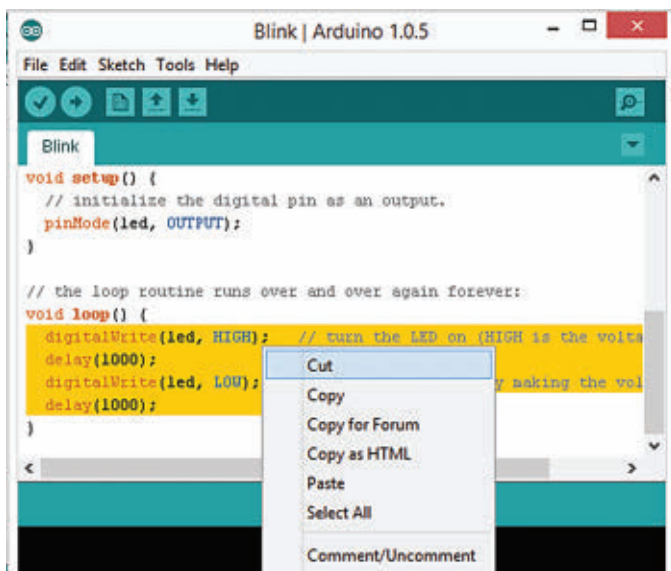

FIGURE 6: Delete contents of loop.
- ☐ Delete the content of the *loop()* function by highlighting the code with the mouse cursor right button pressed. Then, press the left mouse button and select 'Cut' as shown in **Figure 6**.